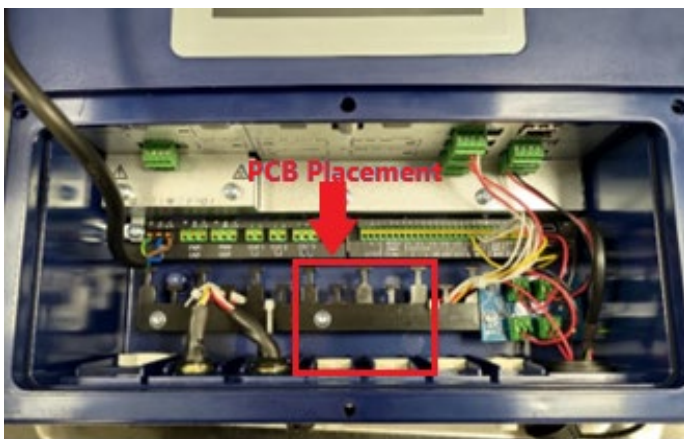

Figure 1
4. Attach the PCB into the Controller box. Mount the PCB with the screw already placed in the area, where it is supposed to be placed (Fig 1)